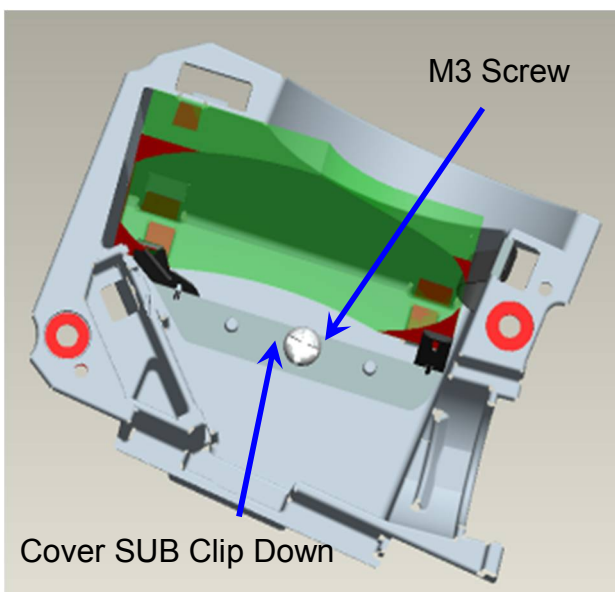

Fig. 2-5
- III. Assemble "Cover SUB Clip Down" on SUB HSG and lock with screw well. (Fig.2-5).